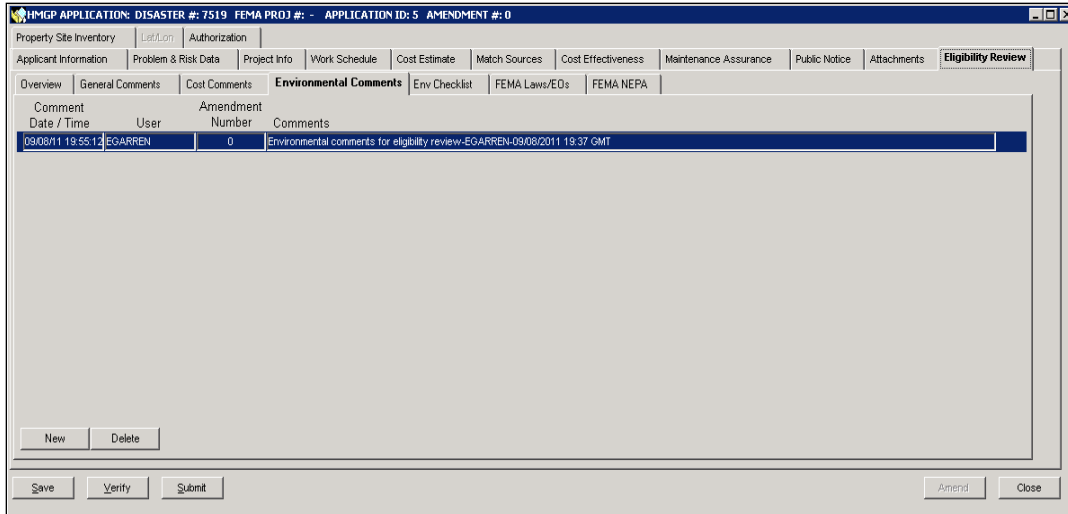

Figure 6-76: Environmental Comments Sub-tab with Comments Added
- c. Enter your comments and click the OK button. The comments you entered are now displayed on the **Environmental Comments** sub-tab (Figure 6-76).